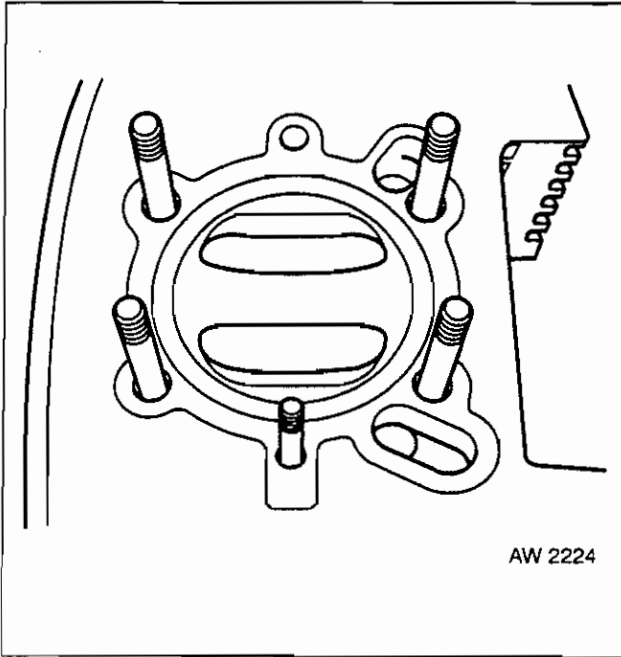

Fig 2.8 Cylinder Removal
d. Once the cylinder head is removed the cylinder can be lifted from the crankcase by sliding up the studs (Fig 2.8 refers). The cylinder base gasket can now be removed.